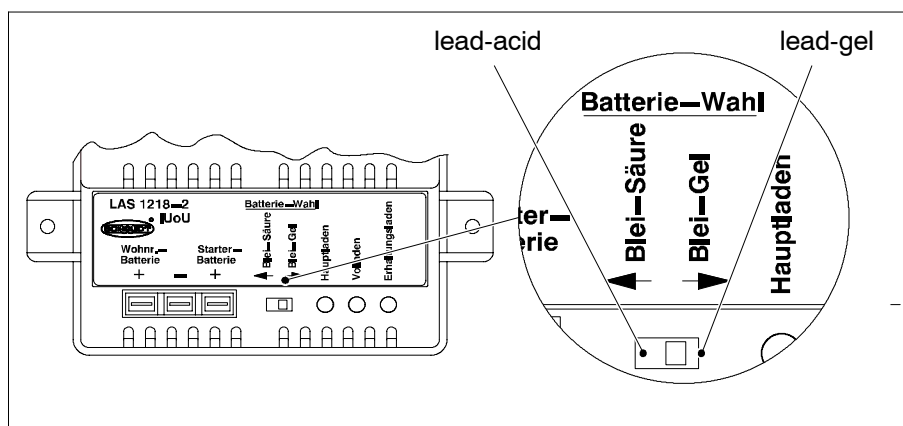

Fig. 8 Battery selector switch lead-gel-/lead-acid battery.
- Move the battery selector switch (see Fig. 8) into the correct position using a thin object, such as a ballpoint pen: